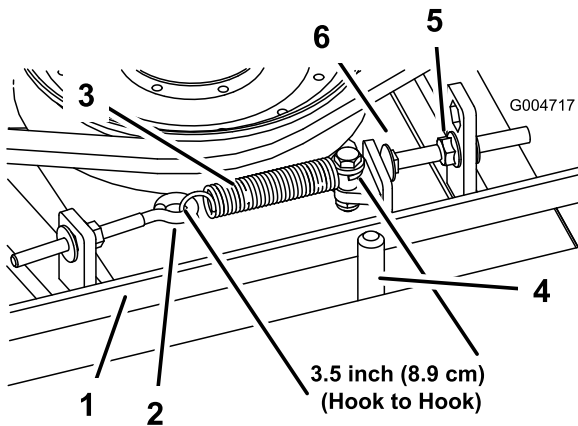

Figure 69
When properly tensioned, the inside measurement of the extension spring (hook to hook) should be approximately 8.9 cm \pm .63 cm (3.50 \pm 0.25 inch). Once the correct spring tension is attained, adjust the stop bolt (carriage bolt) until there is approximately 0.32 cm \pm 0.152/0.000 cm (0.125 \pm 0.060/-0.000 inch) clearance between the head of the bolt and the idler arm (Figure 69).
Note: Make sure the belt is positioned on the spring side of the belt guide (Figure 69).
2. Loosen the eye bolt allowing the removal of the extension spring (Figure 69).
idler arm to pass by the stop bolt (Figure 69). Move the idler pulley away from the belt to release belt tension.
8. Reconnect the extension spring (Figure 69) to the eye bolt and tension the belt as follows: